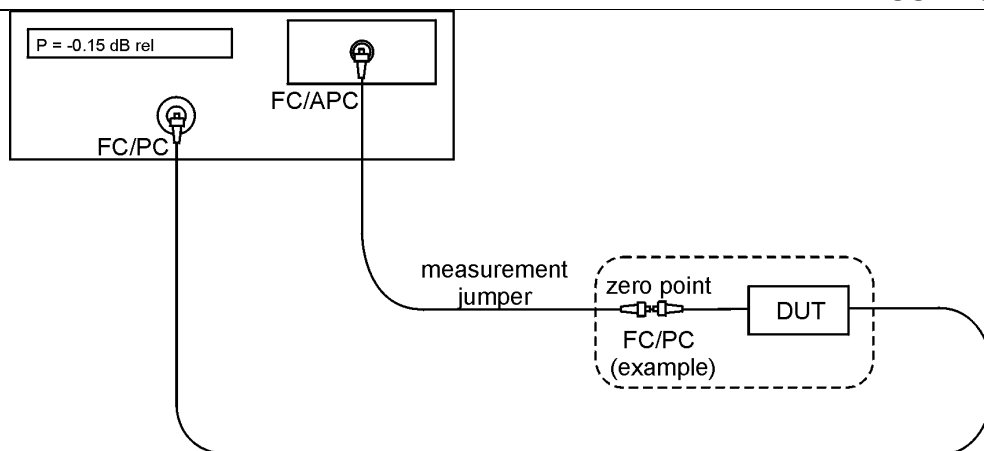

Figure 9: Measuring Relative Power
3. Clean the output connector of the measurement jumper and the input connector of the DUT, and connect the two connectors. Connect the output connector of the DUT to the detector on the front of the meter. The meter displays the loss due to the DUT (Figure 9).